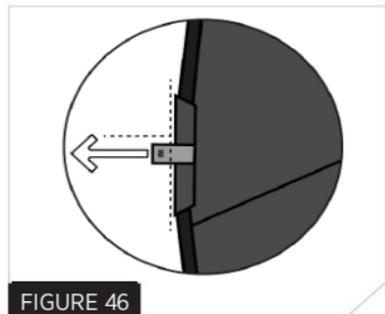

FIGURE 46
22. Ensure the red breakout cord is perpendicular to the zipper (Fig. 46) and is visible and easily accessible in the event that oral inflation is required (see "Inflating Your Flotation Device", page 11).